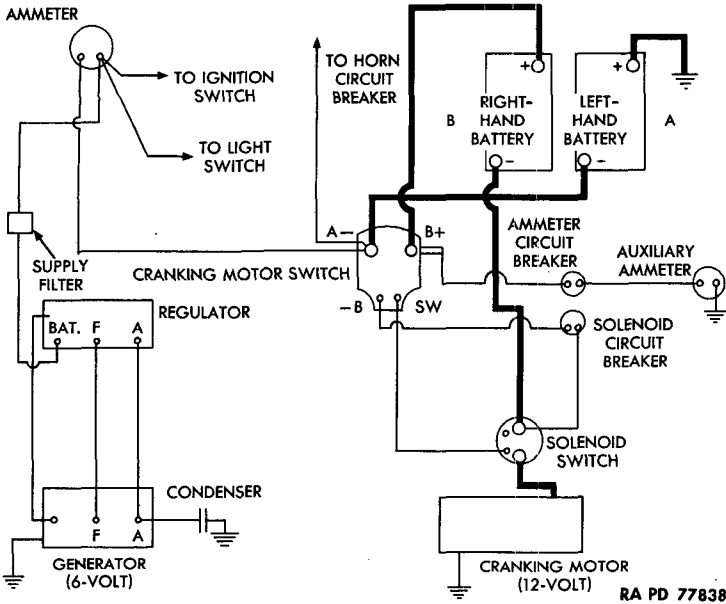

Figure 47 – Wiring Diagram of Starting and Generating Systems
86. DESCRIPTION (fig. 47).
(2) **DISCONNECT WIRES** (fig. 47). Disconnect the three wires and one bond strap from top of generator. Tag wires to facilitate installation.
(3) **CONNECT WIRES** (fig. 47). Connect red wire from harness and condenser lead on armature terminal. Connect yellow wire from harness on field terminal. Connect condenser, black wire from harness, and bond strap from frame on ground screw.